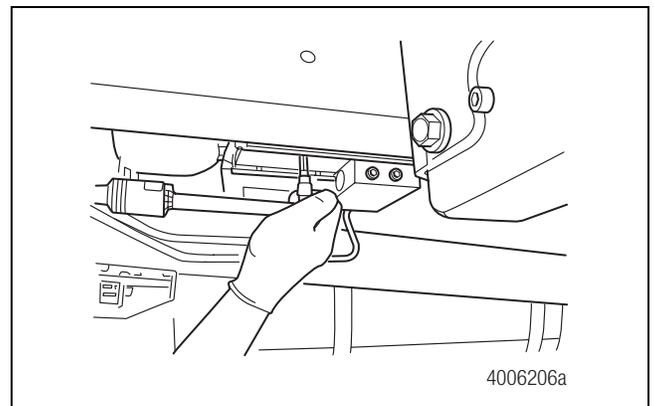

Figure 4.34
- Insert the pump retaining plug into the threaded hole. Use a 6 mm hex-head socket wrench to tighten the plug to 195 ± 18 in-lb (22 ± 2 N•m). Figure 4.34.